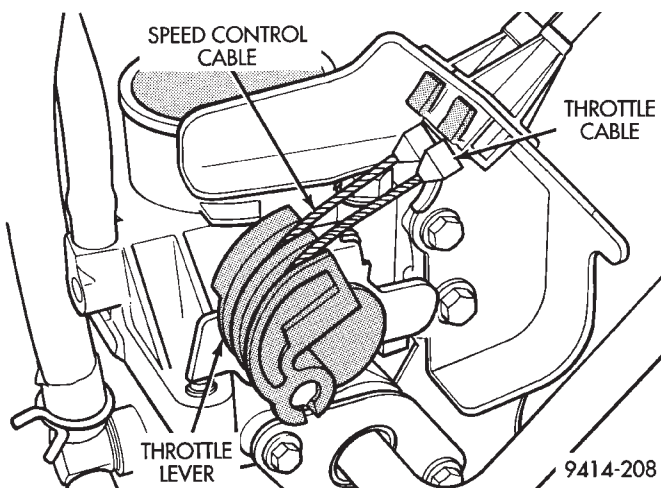
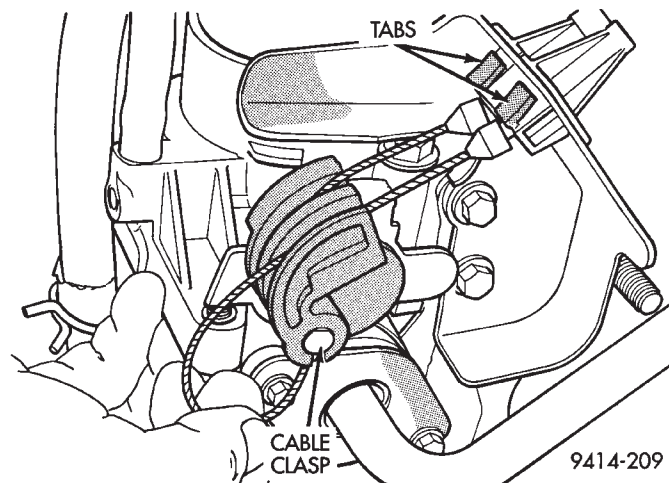

Fig. 46 Throttle Cable Attachment to Throttle Body
Fig. 47 Disconnecting Throttle Cable
(1) Working from the engine compartment, remove the throttle cable from the throttle body lever (Fig. 46) and (Fig. 47).
(2) Compress the retaining tabs on the cable and slide cable out of bracket (Fig. 47).